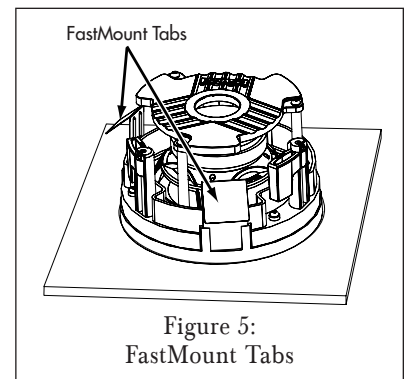

Figure 5: FastMount Tabs
- The FastMount tabs will prevent the speaker from falling out of the mounting hole, allowing the installer to let go of the speaker to pick-up tools or other items (*Figure 5*).